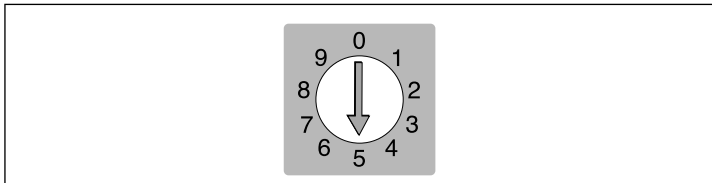

Figure 4: SCSI address selector
- A SCSI Address Selector:** to assign an address, use a screwdriver to aim the arrow at an address number. Use only 0, 1, 2, 3, 4, 5, or 6. Do not use 7, 8, or 9. See Figure 4 for a detailed illustration.
4. **IMPORTANT:** On the back of the scanner is a small dial, which is used for setting the SCSI address for the scanner (see Figure 4). Make sure that each device in your SCSI chain has been assigned a different SCSI address. If necessary, use small screwdriver adjust the wheel so that it points to a new address for the scanner. Use only 0, 1, 2, 3, 4, 5, or 6. Do not use 7, 8, or 9.